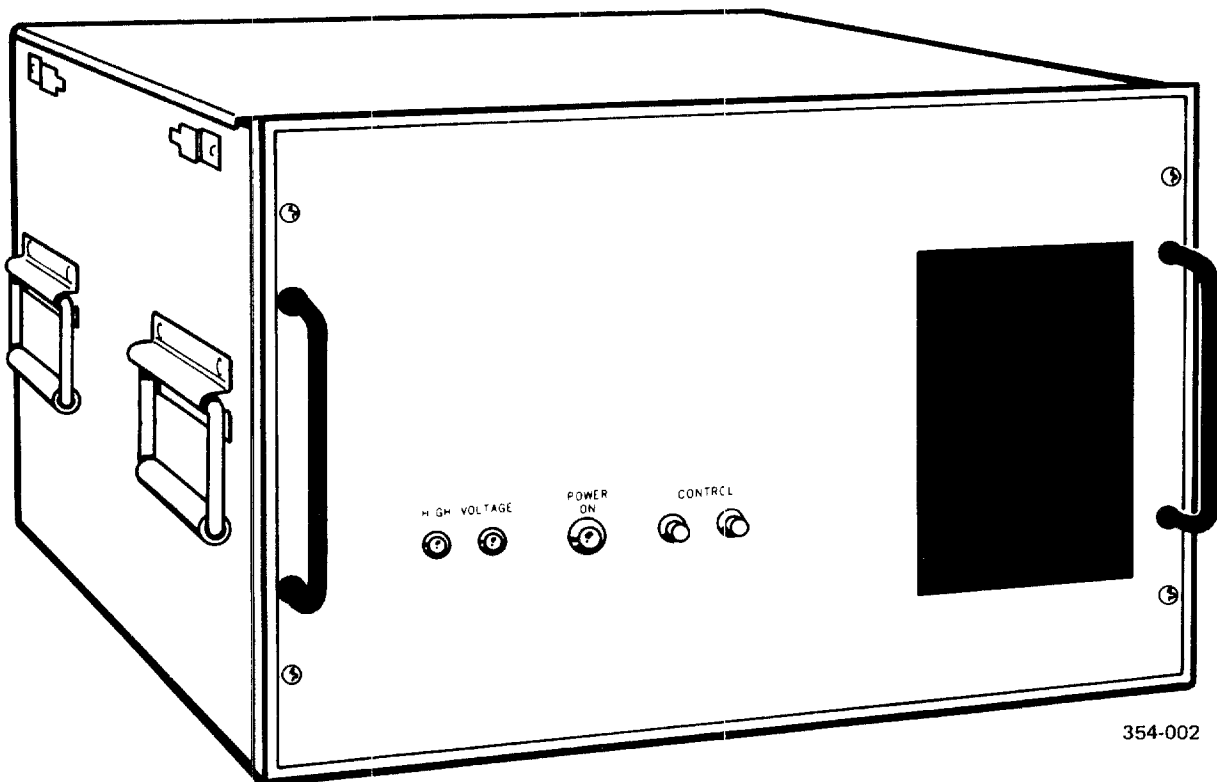

Figure 1-1. Power Supply PP-7913/URC
**1-1. GENERAL DESCRIPTION AND PURPOSE.** Power Supply PP-7913/URC, shown in figure 1-1, and hereafter known as the 1KW Power Supply, is a 115/208/230 Vac, 10%, single-phase 50/60/400 Hz power supply that produces three output voltages: +3000 Vdc at 1A, +13.5 Vdc at 8A, and 115 Vac at 1A.